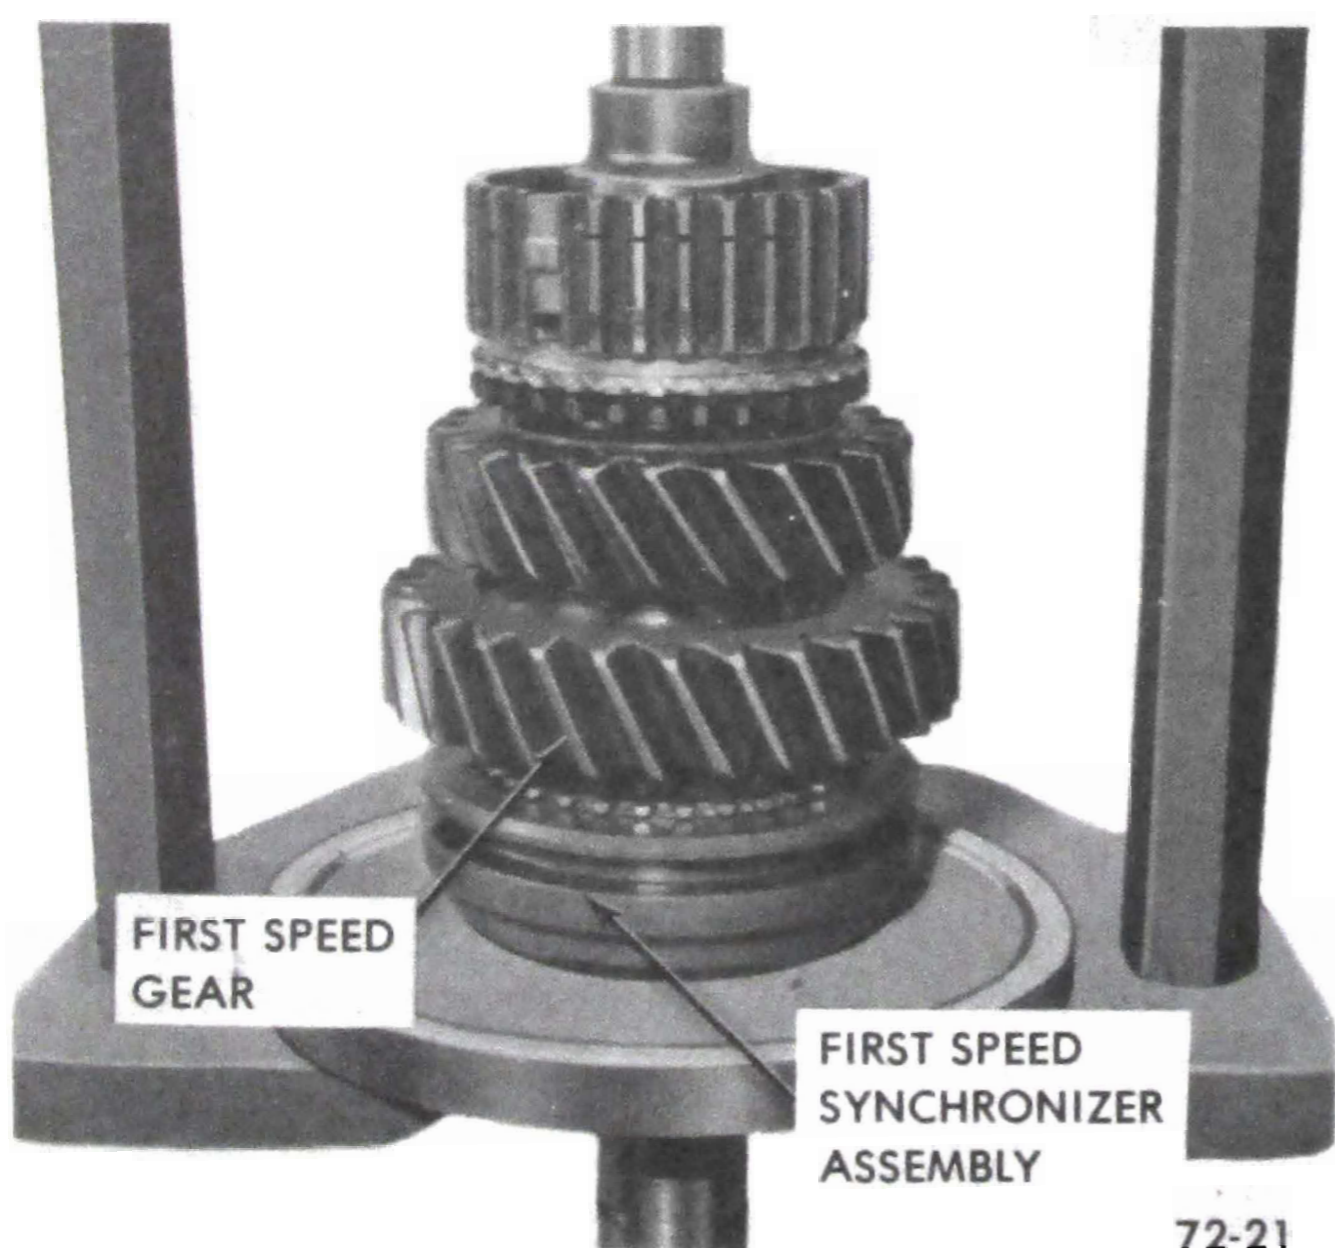

Figure 72-19 · Installing First Speed Gear
2. Install first speed gear and synchronizer on mainshaft. See Figure 72-19. Using ram press and Press Plate J-8609, press first speed synchronizer assembly (with identification ring toward rear of transmission) onto mainshaft. Install retaining snap ring. Make certain notches in blocking ring align with keys in first speed synchronizer assembly.